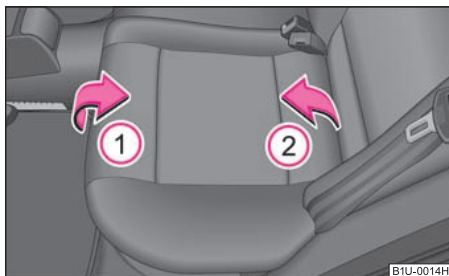

Fig. 64 Folding the seat cushion forwards
- Pull up the seat cushion in direction of arrow ① and fold forwards in direction of arrow ② ⇒ fig. 64.